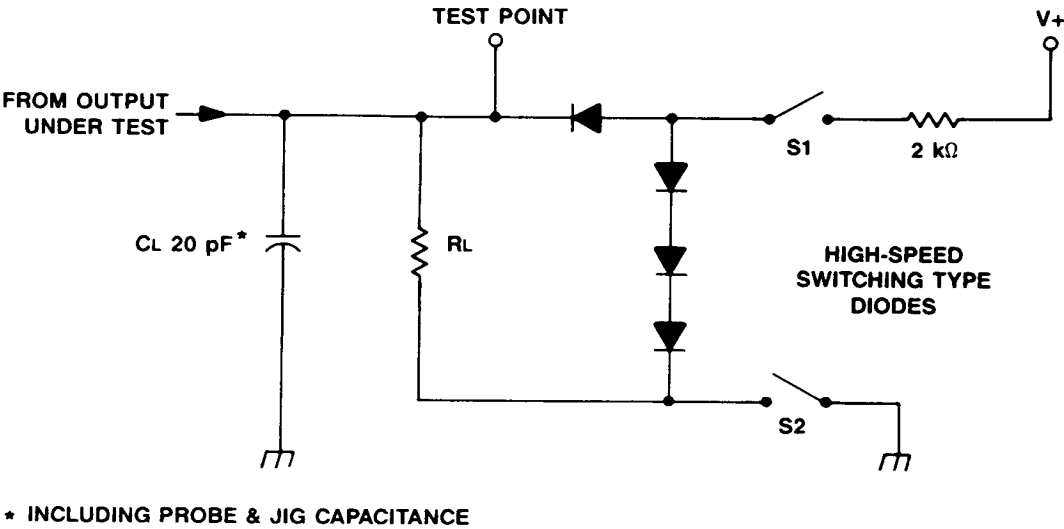
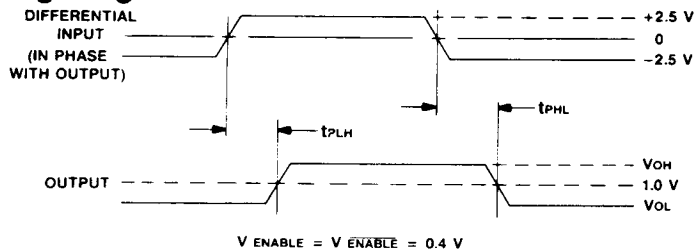

Figure 1. Load Test Circuits for 3-State Outputs
Figure 11. Signal Propagation Delay Time
* See Figure 1 for Load Test Circuit, and Figures 11 and 12 for the Timing Diagrams.